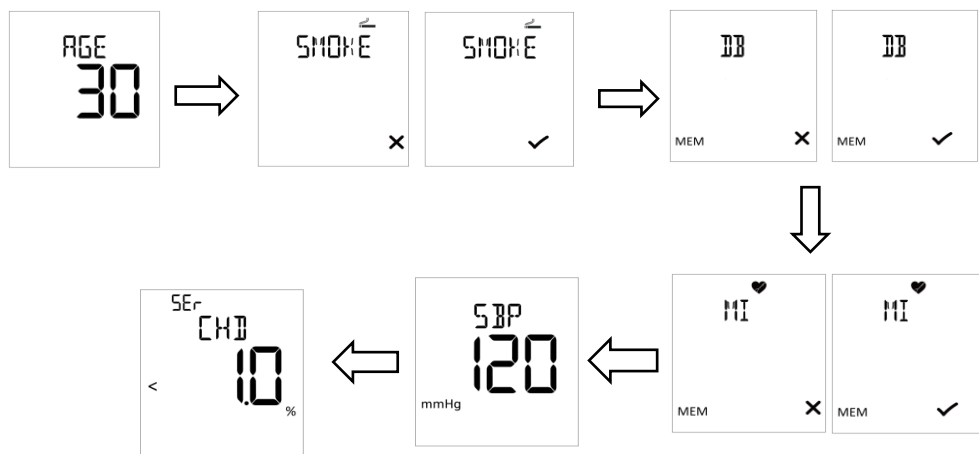

Fig 5.52
- PRO method: age, smoking status(✗or✓), history of diabetes(✗or✓), myocardial infarction(✗or✓), systolic blood pressure should be confirmed, after sequential selection, the assessment of CHD results are display.(Ref Fig 5.52)